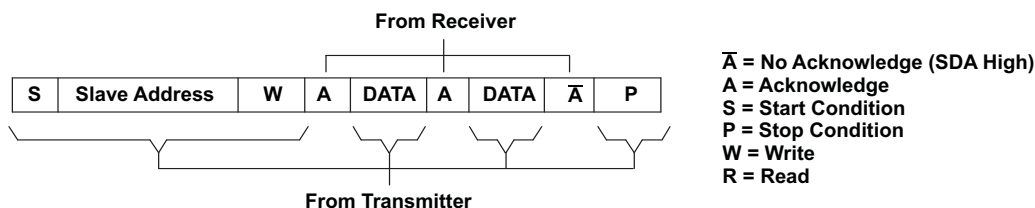
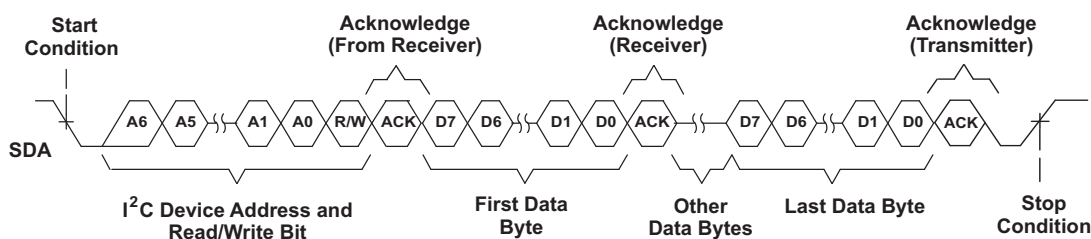
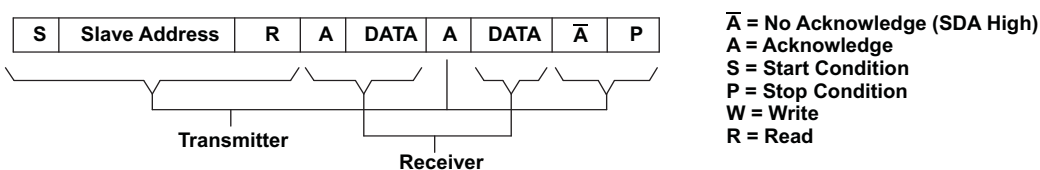
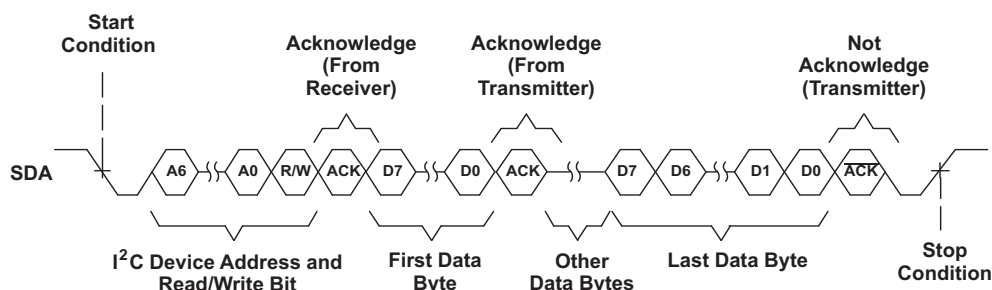

Figure 9. I²C Write Cycle
Figure 10. Multiple Byte Write Transfer
Figure 11. I²C Read Cycle
Figure 12. Multiple Byte Read Transfer
During a write cycle, the transmitting device must not drive the SDA signal line during the acknowledge cycle, so that the receiving device may drive the SDA signal low. After each byte transfer following the address byte, the receiving device pulls the SDA line low for one SCL clock cycle. A stop condition is initiated by the transmitting device after the last byte is transferred. Figure 9 and Figure 10 show an example of a write cycle. Note that the THS7347 does not allow multiple write transfers to occur. See the example, **Writing to the THS7347**, in Section 12 for more information.
During a read cycle, the slave receiver acknowledges the initial address byte if it decodes the address as its address. Following this initial acknowledge by the slave, the master device becomes a receiver and acknowledges data bytes sent by the slave. When the master has received all of the requested data bytes from the slave, the not acknowledge (\bar{A}) condition is initiated by the master by keeping the SDA signal high just before it asserts the stop (P) condition. This sequence terminates a read cycle, as shown in Figure 11 and Figure 12. Note that the THS7347 does not allow multiple read transfers to occur. See the example, **Reading from the THS7347**, in Section 12 for more information.
The THS7347 operates using only a single-byte transfer protocol similar to that illustrated in Figure 9 and Figure 11. The internal subaddress registers and the functionality of each are given in Table 2. When writing to the device, it is required to send one byte of data to the corresponding internal subaddress. If control of all three channels is desired, then the master must cycle through all the subaddresses (channels) one at a time; see the example, **Writing to the THS7347** (in Section 12) for the proper procedure of writing to the THS7347.